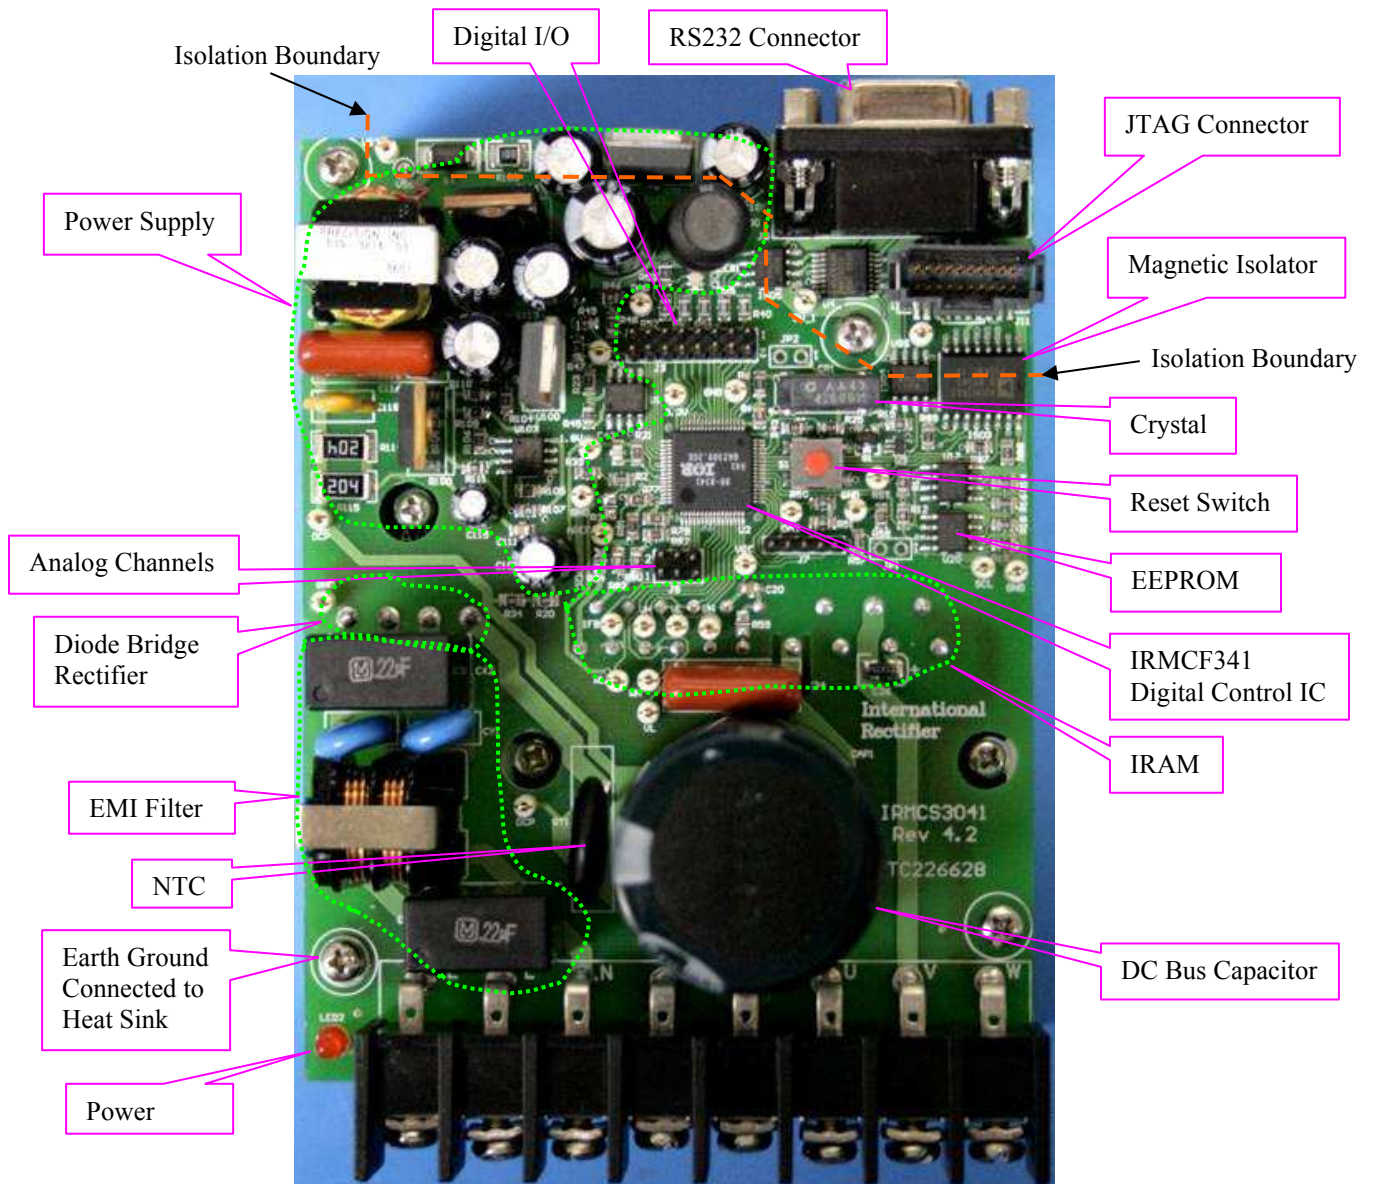

Figure 2. Top View of IRMCS3041
- Figure 2. Top View of IRMCS3041 7
A top view of IRMCS3041 is shown in Figure 2.